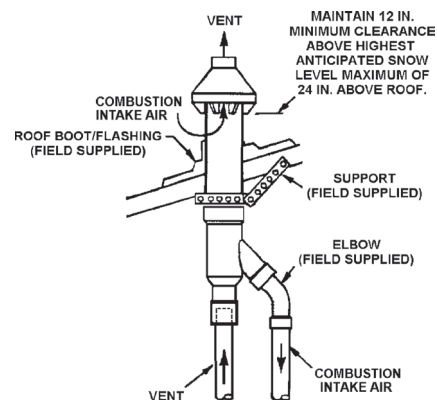

FIGURE 23.
INSTALLATION PROCEDURE 1 ROOF TERMINATION, see Figure 23.
- Secure assembly to roof structure as shown in Figure 23 using field supplied metal strapping or equivalent support material.
NOTE: Ensure termination height is above the roof surface or anticipated snow level as shown in Figure 23.
- Cement water heater combustion air intake and vent pipes to concentric vent termination assembly. See Figure 23 for proper pipe attachment.